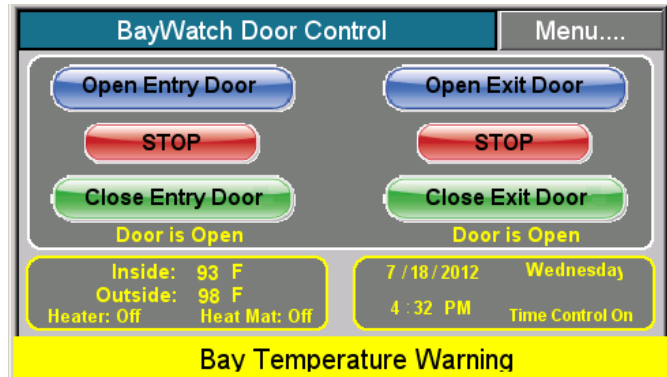

Fig. 6D
- The red alarm will now change to yellow and continue to scroll the alarm message across the bottom of the screen until the problem is resolved or repaired (Fig. 6D)